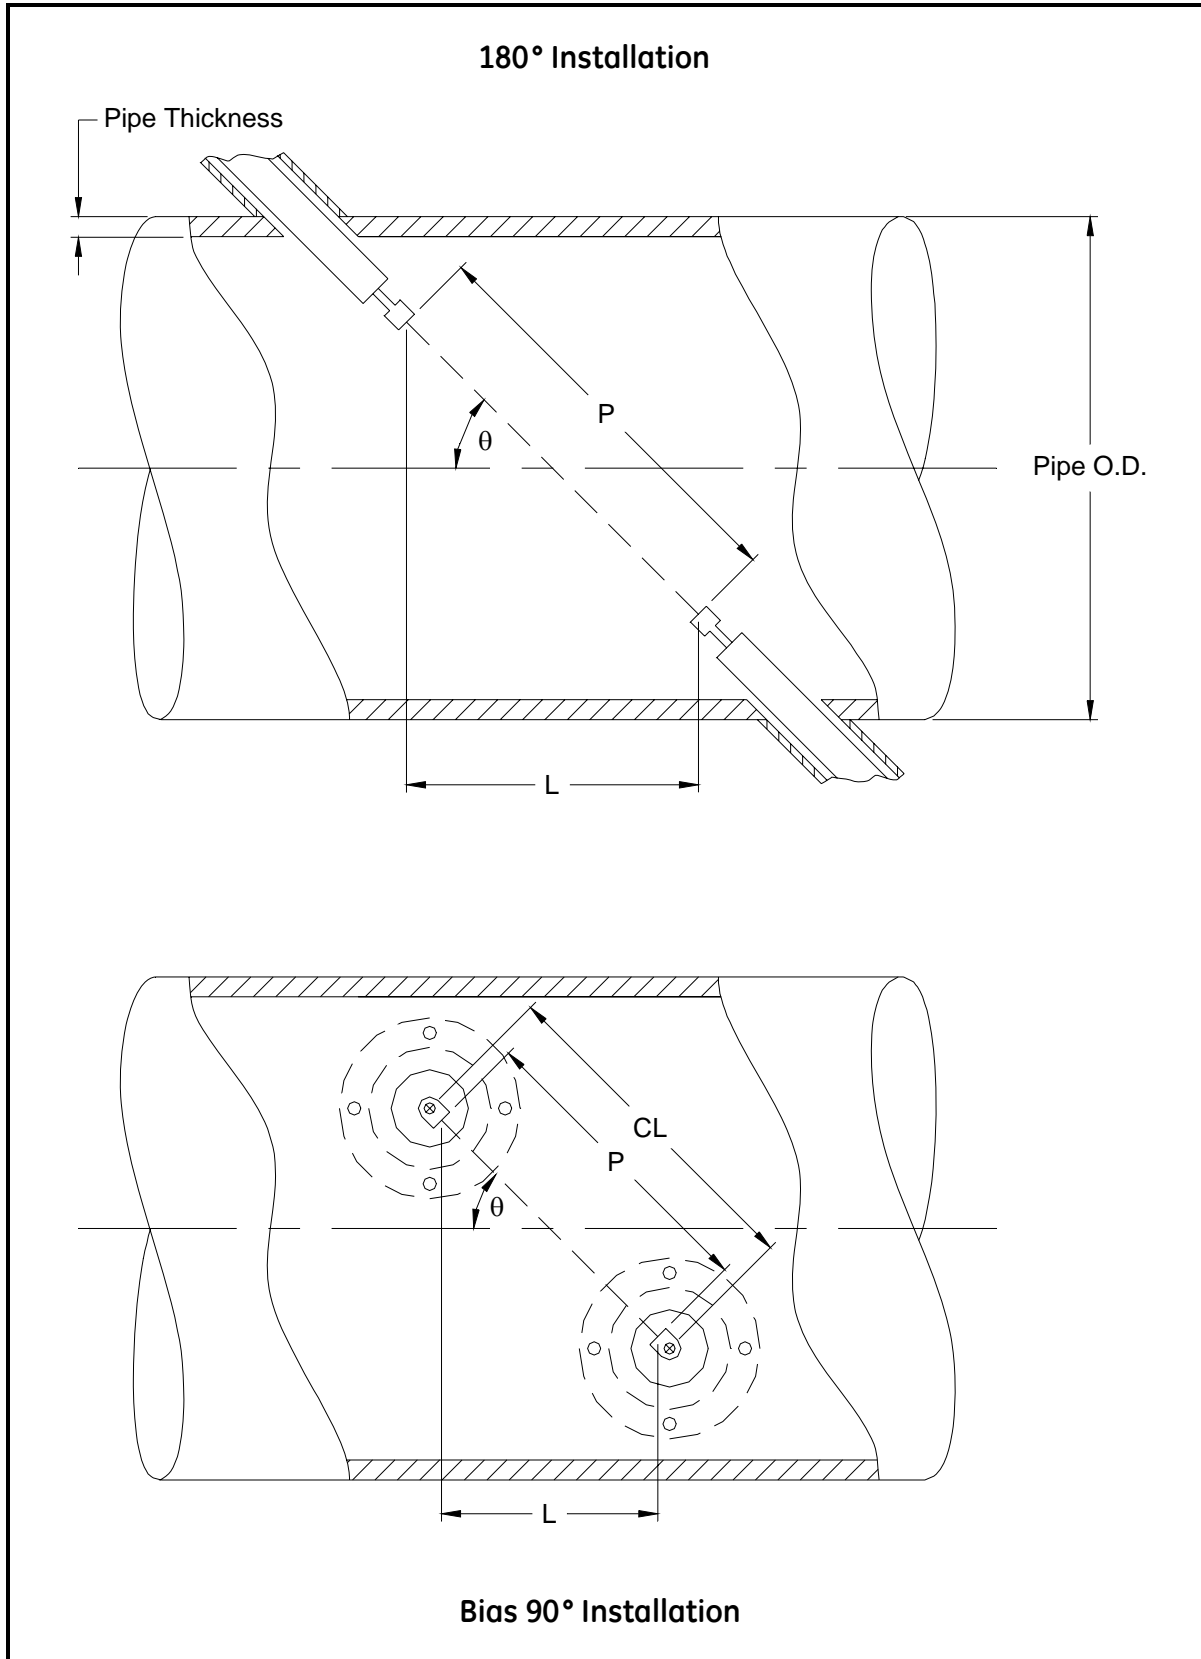

Figure D-1: Top View of Transducer Installations
The accuracy of the programmed P and L values is critical to precise flow rate measurements. If the factory supplies the flowcell for the system, the correct values will be included in the documentation supplied with the unit. For transducers installed on an existing pipe (see Figure D-1 on page D-2), P and L must be measured at the site. This appendix provides instructions for properly determining these dimensions.
Whenever possible, physically measure the face-to-face distance (P) and the axial distance (L) between the centers of the flat faces of the transducers. Refer to Figure D-1 on page D-2 for an illustration of the proper distances to measure in a typical installation.
With a Bias 90° transducer installation, it sometimes happens that the only known parameters are the transducer angle (θ) and the centerline distance between the transducer bodies (CL). In these cases, it is still possible to calculate P and L by combining Equation D-1 above with the additional Equation D-2 below (see Figure D-1 on page D-2):